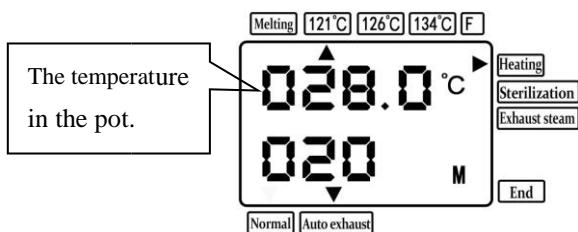

Fig. 18
(1) Close the upper lid and pull the door switch handle to the lock position fully. Then press the "Start" key to initiate the sterilization cycle and the heating. The control panel will display the temperature and sterilization time in the sterilization chamber (Fig.18), and the status is "Heating".